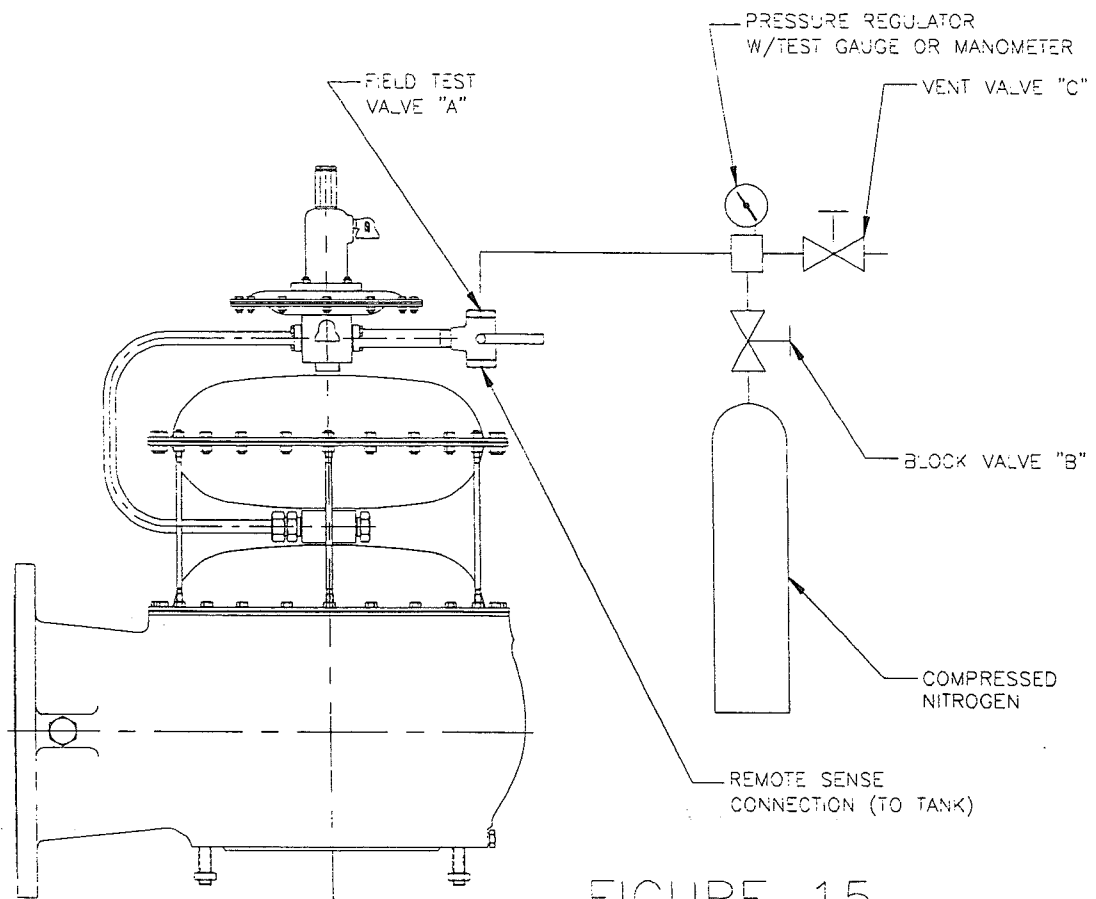

FIGURE 15
1. Connect gas bottle as shown in Figure 15.